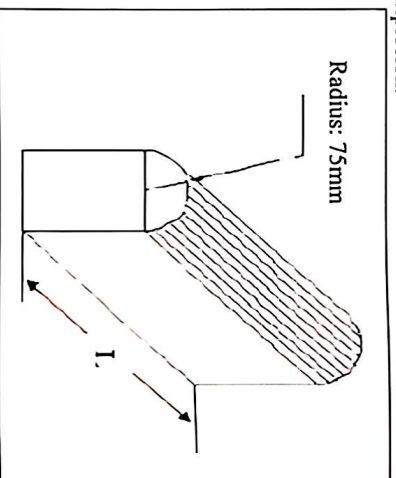

图3 夹具安装示意图 Extruded plate diagram
- 挤压板形式：半径 75mm 的半圆柱体，半圆柱体的长度（L）大于被挤压电池单体的尺寸（参考图 3 所示）；
b) The form of extruded plate: a semi cylinder with a radius of 75mm, and the length (L) of the semi cylinder is larger than the size of the cell (see the figure 3);